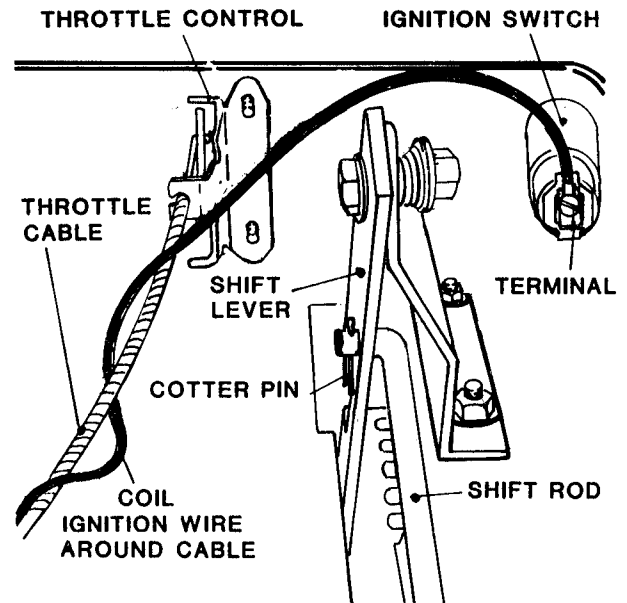

FIGURE 4.2 — CONTROL CONNECTION DETAIL
**STEP 4 — SHIFT ROD:** Assemble jam nut and connector to threaded end of upper shift rod. Pull end of lower shift rod as far as it will go out of frame, place shift handle in REVERSE then turn the connector on upper shift rod onto lower shift rod until top end lines up with hole in shift lever, back rod out 3-1/2 turns then insert top end through hole as shown in figure 4.2 and secure with 3/32 x 3/4 cotter pin. Turn jam nuts tight against the coupling.
**STEP 7 — IGNITION SWITCH:** Unwrap ignition wire from around engine, coil it around the throttle control cable up to the control panel (to take up excessive slack) then run it across and connect eye to terminal screw on bottom of engine ignition switch as shown in figure 4.2.